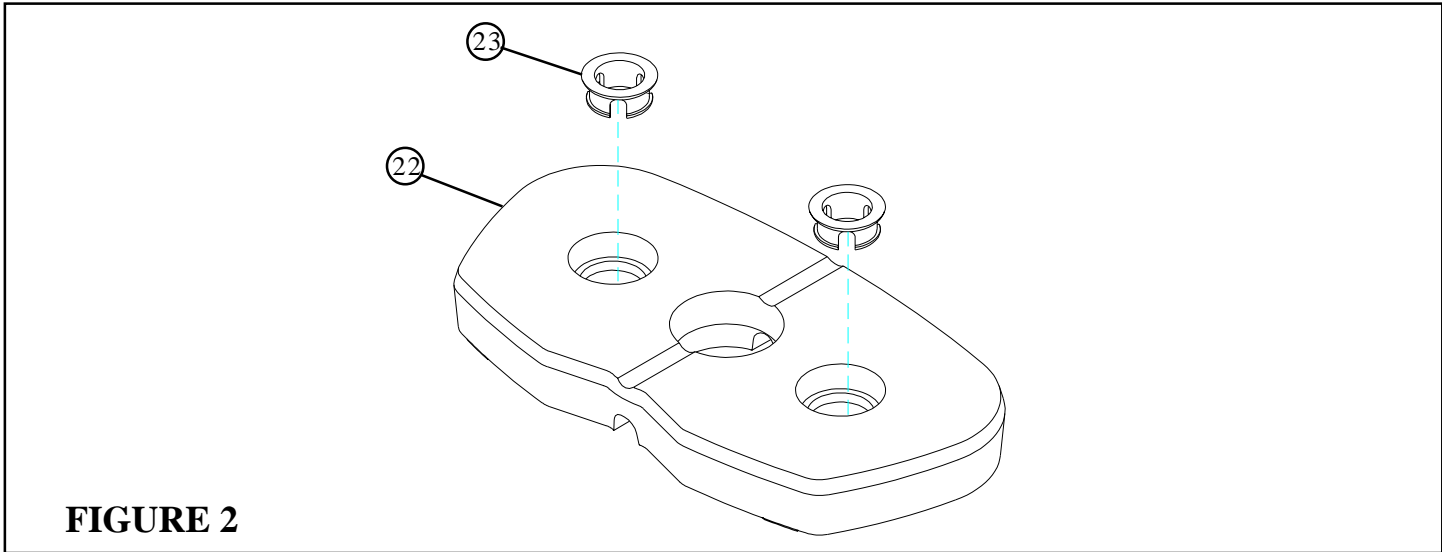

**FIGURE 1**
- **LOOSELY** assemble two BASE PLATES (3) to the FRAME (1) and BASE (2) using four 3/8 X 3-3/4" BOLTS (30) and four 3/8" LOCK NUTS (34). See FIGURE 1.
- Insert two 3/8 x 9/16" FLANGE SPACERS (41) into the upper holes in the FRAME (1) as shown in figure 1
- **LOOSELY** assemble the FOOTPLATE (62) to the lower holes in the FRAME (1) using one 3/8 x 3" BOLT (29) and one 3/8 LOCKNUT (34)
- **LOOSELY** assemble the FRAME BRACE (64) to the FRAME (1) and BASE (2) using three 3/8 x 4" BOLT (63), six 3/8 WASHERS (36) and three 3/8 LOCKNUTS (34)